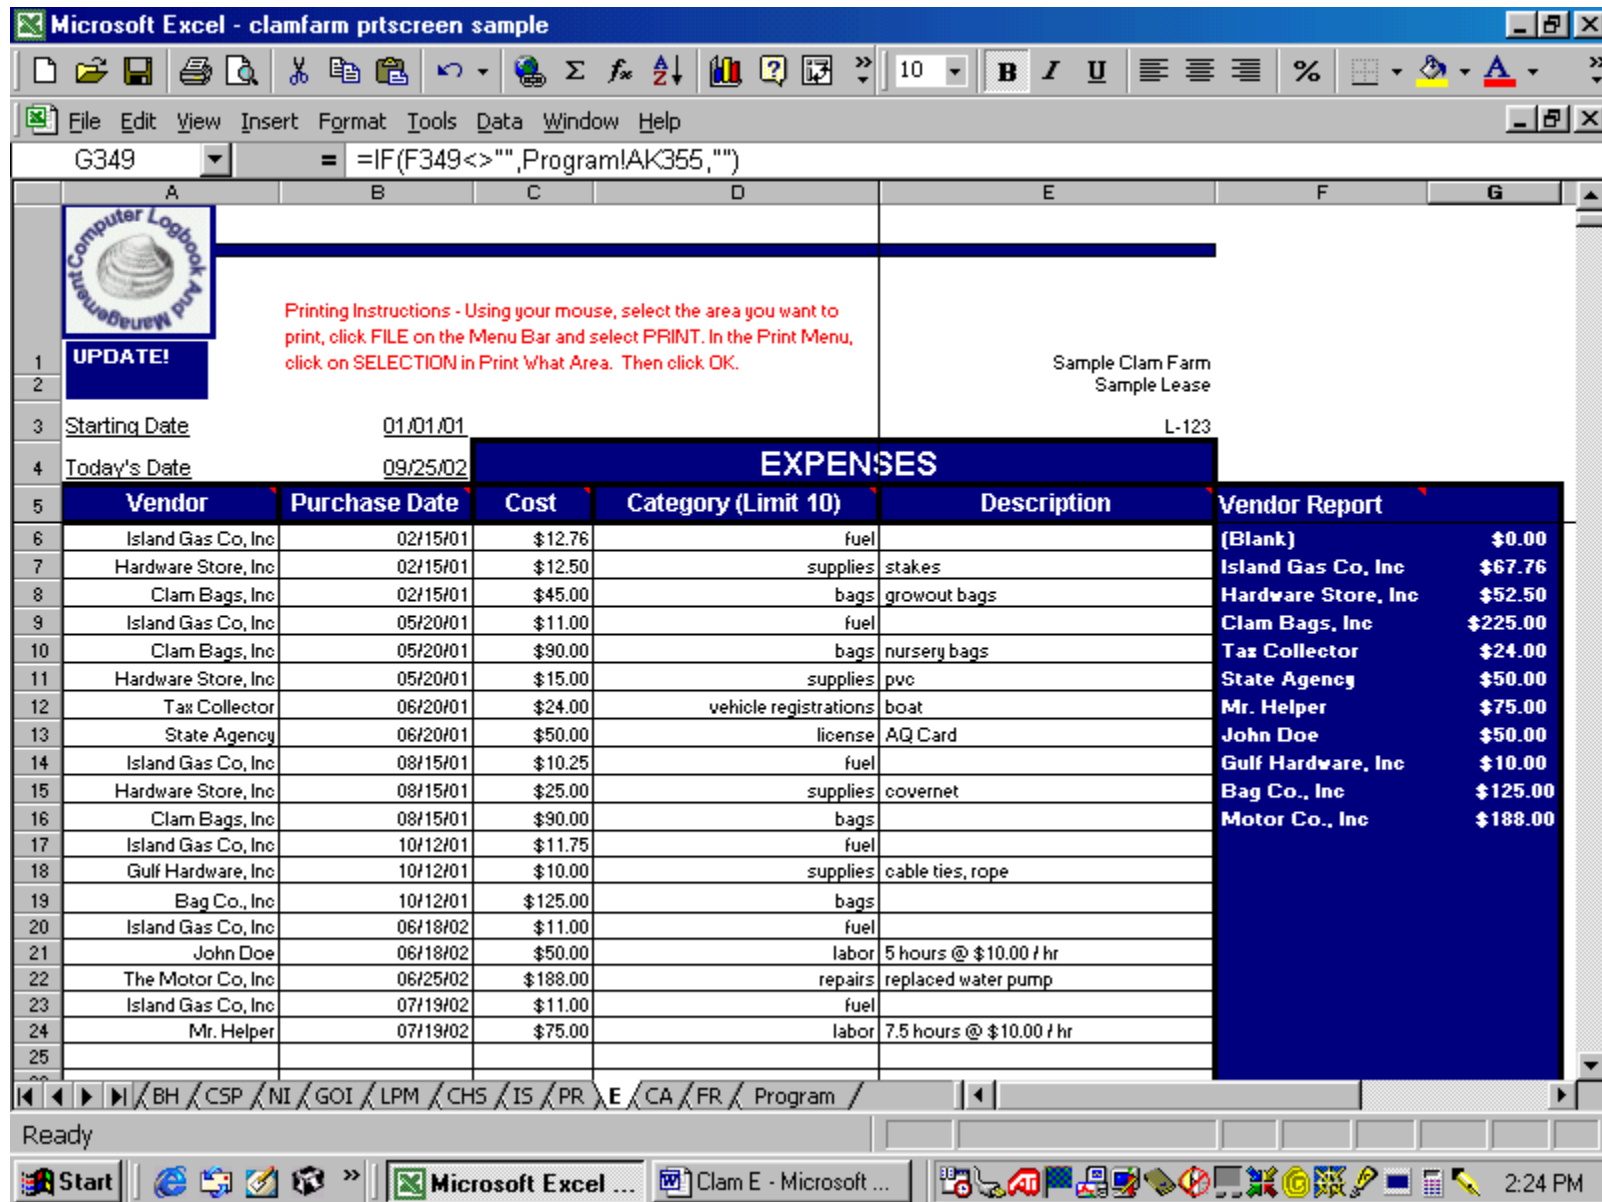

Figure 12.
**Expenses (E):**
**This module provides the user a means to record all operating expenses incurred since the initial start date. (see Figure 12)**